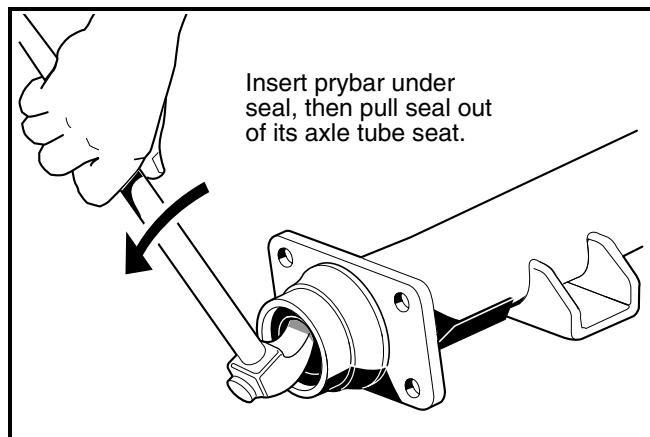

Figure 16b-8 Seal Lip
9. Inspect the axle shaft assembly to be sure the bearing (86) and collar (87) have not slipped and are still seated against the shoulder on the axle shaft (**Figure 16b-9, Page 16b-7**).